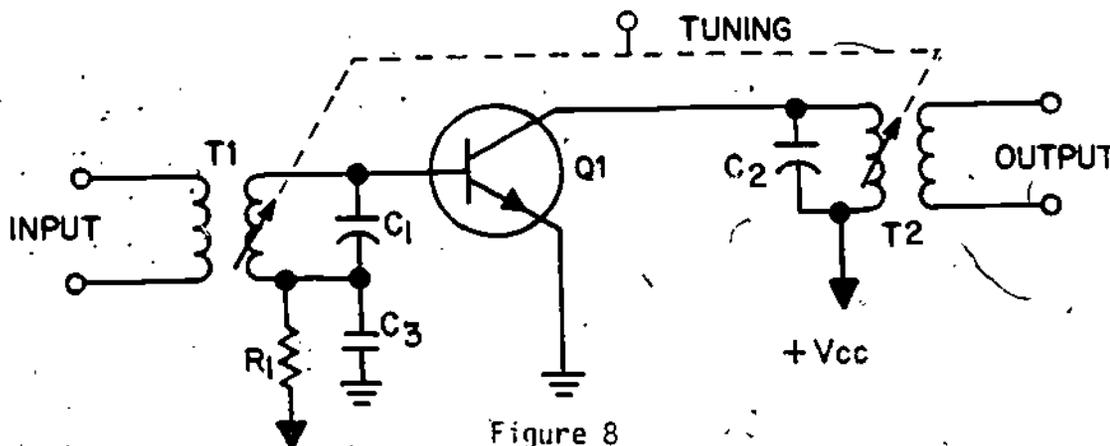

Figure 8
9. Figure 8 shows another way to retune, at the same time, both the input and output coupling circuits in an amplifier.
The components which are variable in Figure 8 are the \_\_\_\_\_.